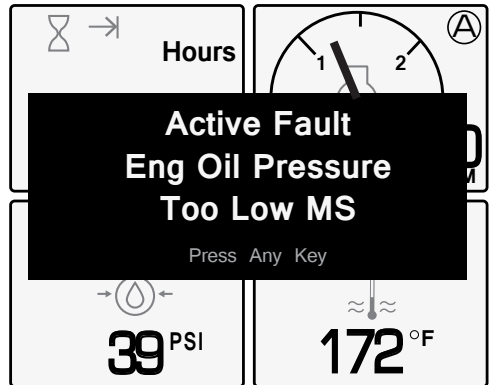

Figure 25. Fault Pop-Up
3. When a fault occurs, a flashing pop-up shows the fault description and the beeper sounds (Figure 25).